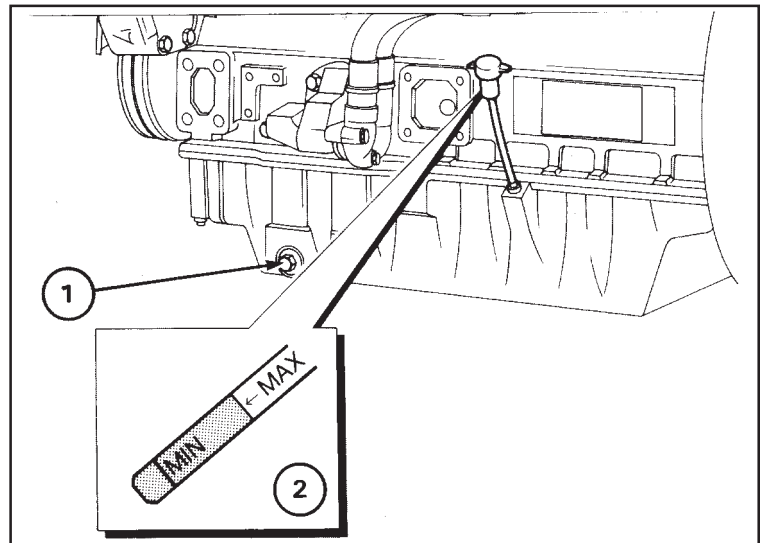

Figure 3 - Changing Oil
- 2 Stop the engine. Remove the sump drain plug (Fig. 3 - Item 1) and its "O" ring and drain the lubricating oil from the sump. Ensure that the "O" ring is not damaged. Fit the drain plug and its "O" ring and tighten the plug to 34 Nm (25 lbf ft) 3,5 kgf m.
- 3 Fill the sump to the "MAX" mark on the dipstick (Fig. 3 - Item 2) with new and clean lubricating oil of an approved grade.